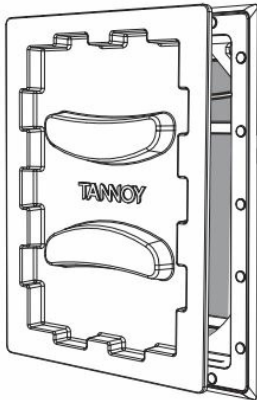

Fig. 12. Adding the Paint Mask to the Frame
2. Press the paint mask into the frame, where it will be kept in place by magnets (Fig. 12). This is left in place while the wall and frame surround is painted, and until the loudspeaker is ready to be installed.